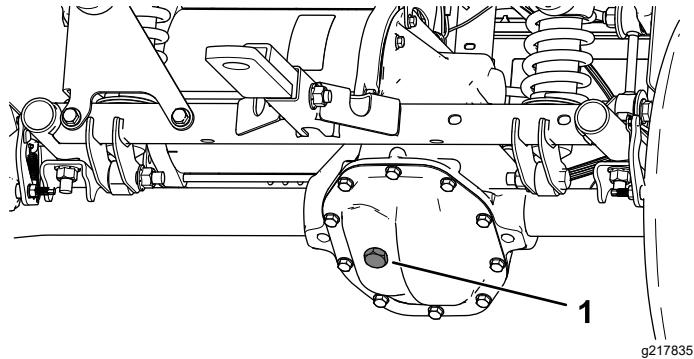

Figure 51
4. Remove the fill plug on the transaxle (Figure 51).
5. If the fluid level is low, remove the fill plug and add the specified fluid until it runs out of the hole (Figure 51).
4. Remove the fill plug on the transaxle and fill the transaxle with the specified fluid until it runs out of the fill hole (Figure 51).